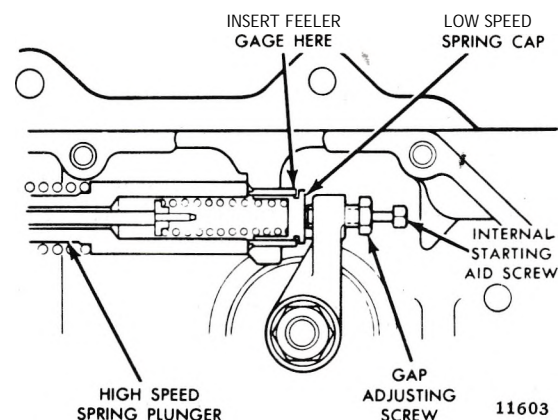

Fig. 2 - Governor Gap Adjustment
7. Check the gap between the low-speed spring cap and the high-speed spring plunger with a feeler gage (Fig. 2). The gap should be .002"-.004". If the gap setting is incorrect, reset the gap adjusting screw.